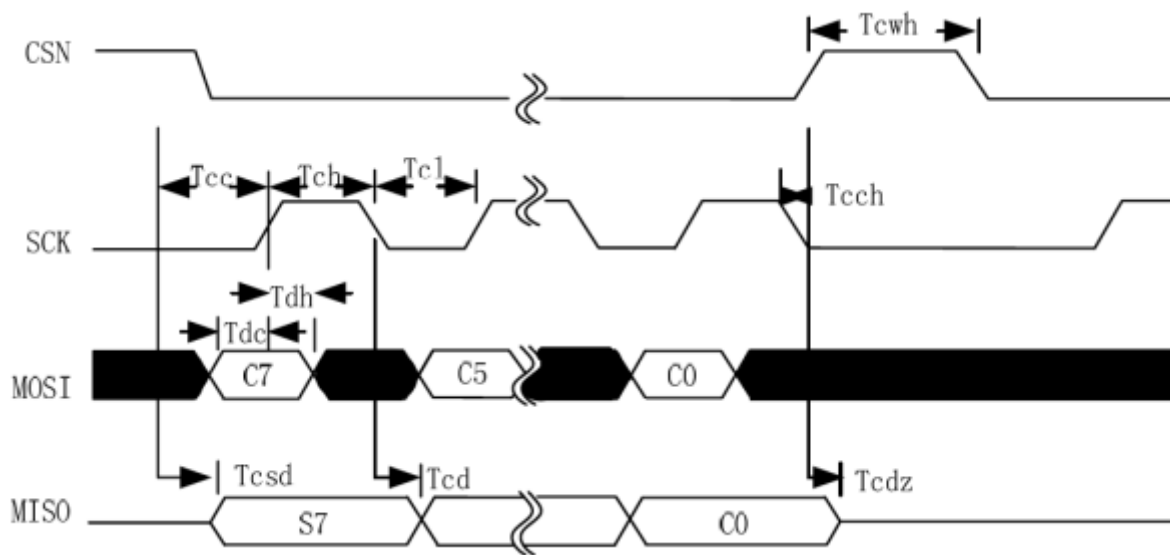

Figure 5 - SPI, NOP operation timing diagram
The XN297 records the address of the sender after confirming that the data has been received, and sends an acknowledge signal with the address as the destination address. On the transmit side, data channel 0 is used as the receive acknowledge signal, so the receive address of data channel 0 is equal to the sender address to ensure that the correct acknowledge signal is received. Figure 5 shows an example of how PTX and PRX addresses are configured.
2. When the MCU has data to send, the receive node address (TX_ADDR) and valid data (TX_PLD) are written to the XN297 through the SPI interface. The length of the transmit data is written to the TX FIFO from the MCU in byte counts. When CSN is low, data is continuously written. After the transmitter sends data, it sets the channel 0 to the receive mode to receive the acknowledge. The receive address (RX_ADDR_P0) is the same as the receiver address (TX_ADDR). For example, in Figure 5, the transmitter (PTX5) and the receiver (RX) of data channel 5 are set as follows:
Figure 3Figure 4Figure 5 and Table 6 show SPI operation and timing. Be sure to enter Standby or Sleep mode before writing to the register.